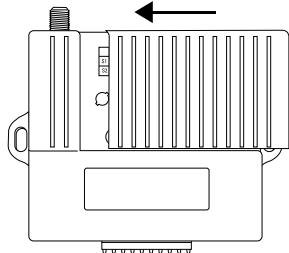

Fig. 3
Step 10. Close the access door on the receiver. See Fig 3.